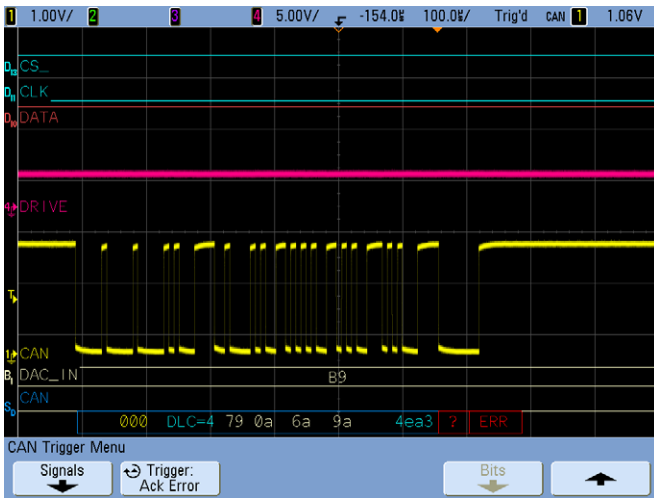

Figure 3 Triggering on Acknowledge Error
- 18 Press **Run**, turn off the Zoom time base mode (press “Main” in the “Horizontal” menu), and set the main time base back to 100 μ s/div. To synchronize on the “missing acknowledge” error frame, you can select to trigger specifically on “Acknowledge Error” to capture this particular frame (000 hex) as shown in Figure 3.